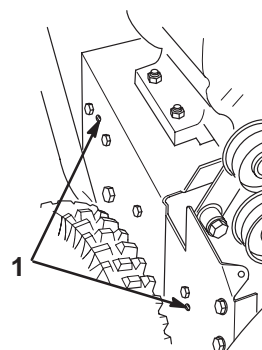

Figure 35
18. Install the two screws that secure the auger brake arm assembly. Ensure that the tabs fit into the holes in the left side of the snowthrower (Fig. 35).
14. Install the two screws that secure the auger brake arm assembly. Ensure that the tabs fit into the holes in the right side of the snowthrower (Fig. 35).